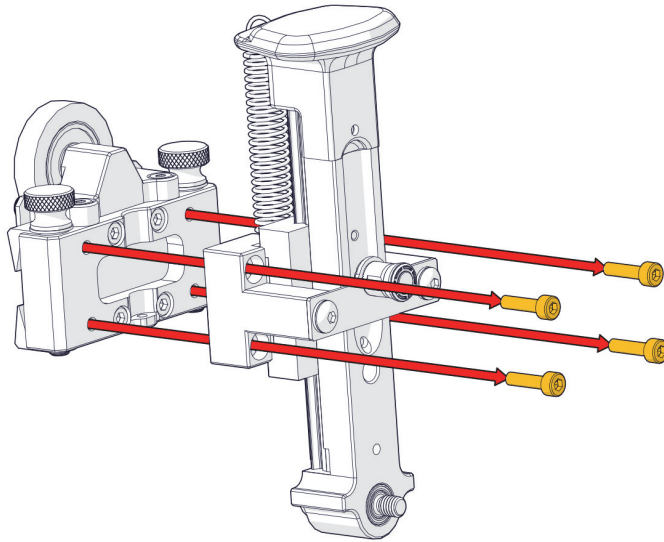

Figure 1-59 Removing the SLA
1. Remove the 4 mounting screws using an M3 Hex driver (see Figure 1-59 on page 67).